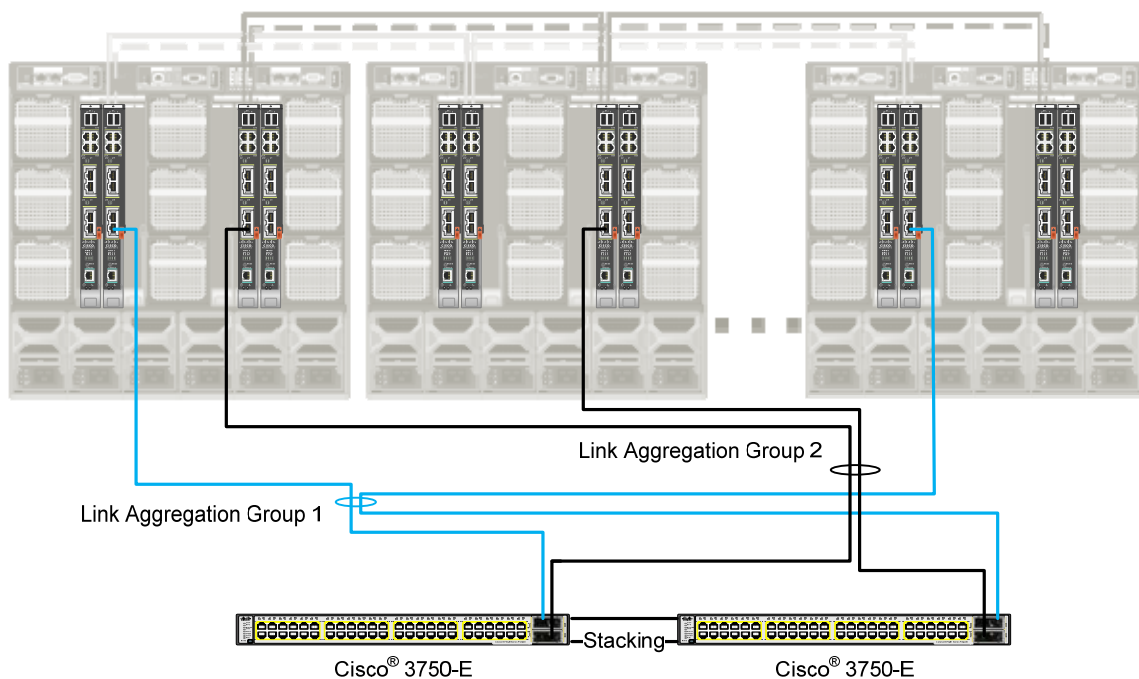

Figure 20: Stack to Stack Uplinks Using 10GbE Links
- Use 10GbE port options where available (See Figure 20)
For example, each Cisco 3130X blade I/O module can have up to two 10GbE X2 ports and the Cisco 3750-E can have at most two 10GbE X2 ports. In most configurations, your external stack will be comprised of two switches – and a maximum of four 10GbE ports. Regardless of the number of M1000e enclosures, there are only four available ports to use for uplinking; therefore, only four 10GbE ports total can be used for uplinking – two ports per redundant stack in the dual stack blade configuration or four ports for the single stack blade configuration. This is illustrated in Figure 20.
Figure 20 illustrates an example of how to link the M1000e enclosures using Cisco Blade Switch 3130X I/O modules with an external switch stack consisting of Cisco 3750-E switches using 10GbE links.